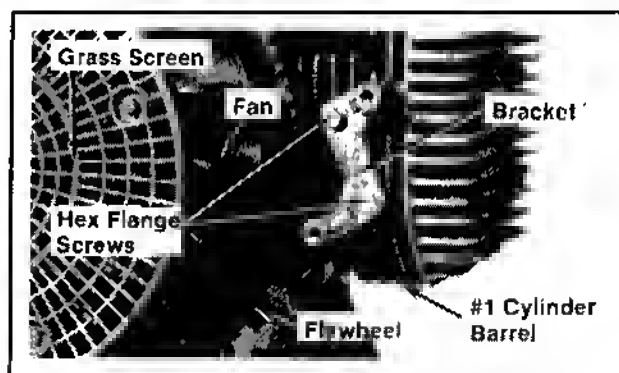

Figure 9-16. Removing Ignition Module Bracket.
2. Remove the hex. flange screws and bracket from #1 cylinder barrel. Refer to Figure 9-16.
1. Remove the grass screen from fan. Refer to Figure 9-16.